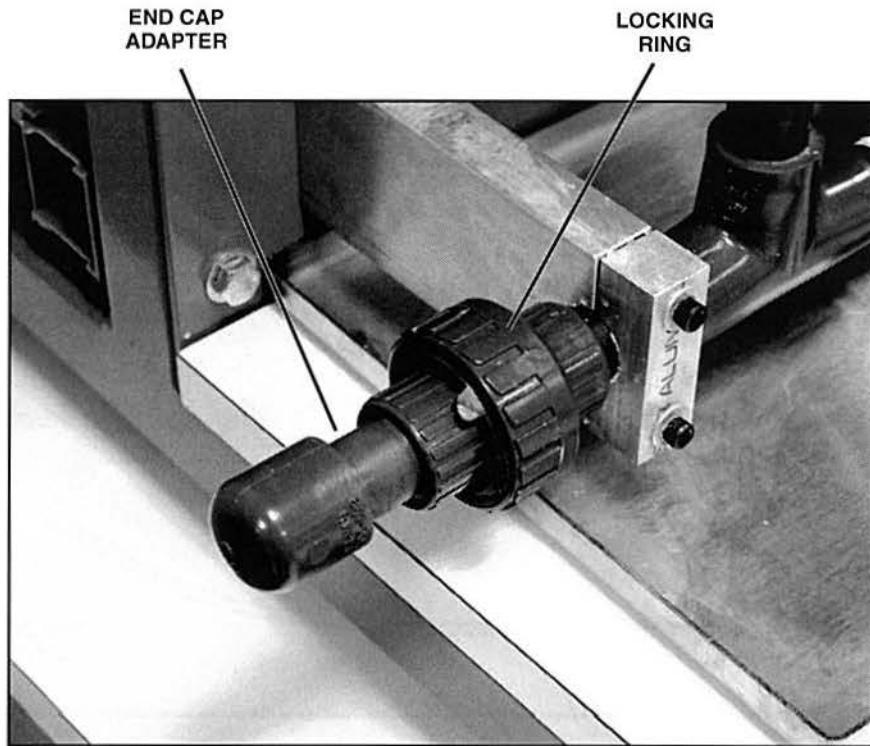

Figure 39. End Cap Adapter
- A. Locate the end cap adapter on the lower left portion of the T5554, shown in figure 39.
- C. Loosen the locking ring on the end cap adapter, shown in figure 39, by turning it clockwise.